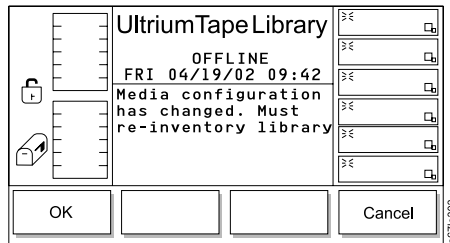

Figure 363. Reinventory screen
- Press the button below the **OK** softkey. The Reinventory screen displays (see Figure 363).